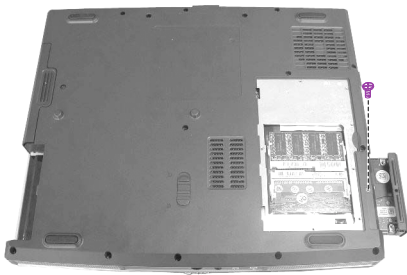

Figure 2-10 Remove HDD Module
2. Remove one screw and slide the HDD module out of the compartment. (Figure 2-10)